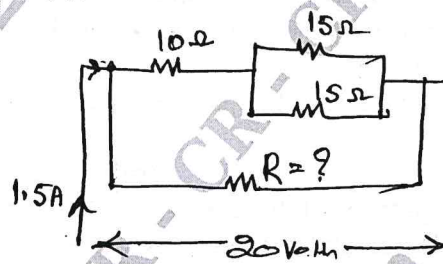

Fig.Q1(b)
- b. For the circuit shown in Fig.Q1(b), find the value of R with 20V of supply.